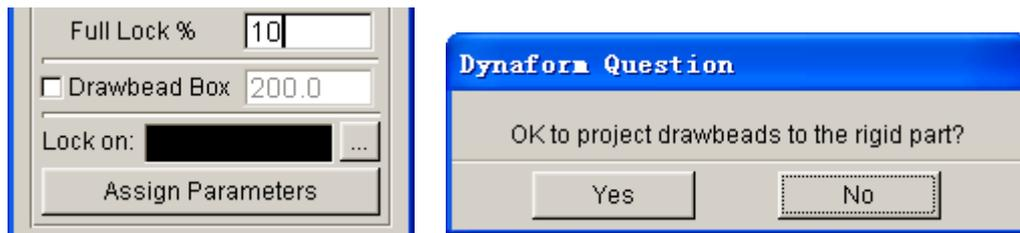

Figure 7.36 Lock the drawbead
22. The eta/DYNAFORM Question dialog box illustrated in Figure 7.36 is displayed. Select **Yes** to accept the projection.